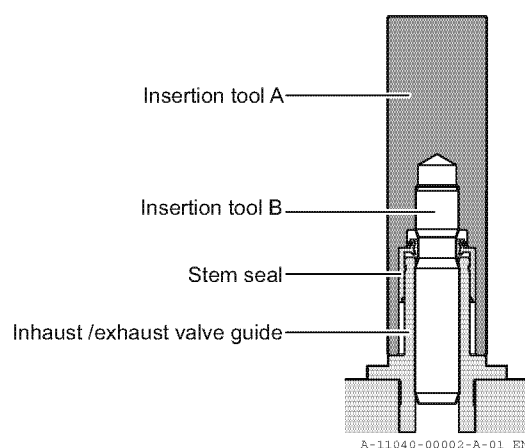

Fig.2 Install the stem seal with a jig
5. Install the stem seal with a jig (Fig. 2). This prevents damage to the stem seal lip.